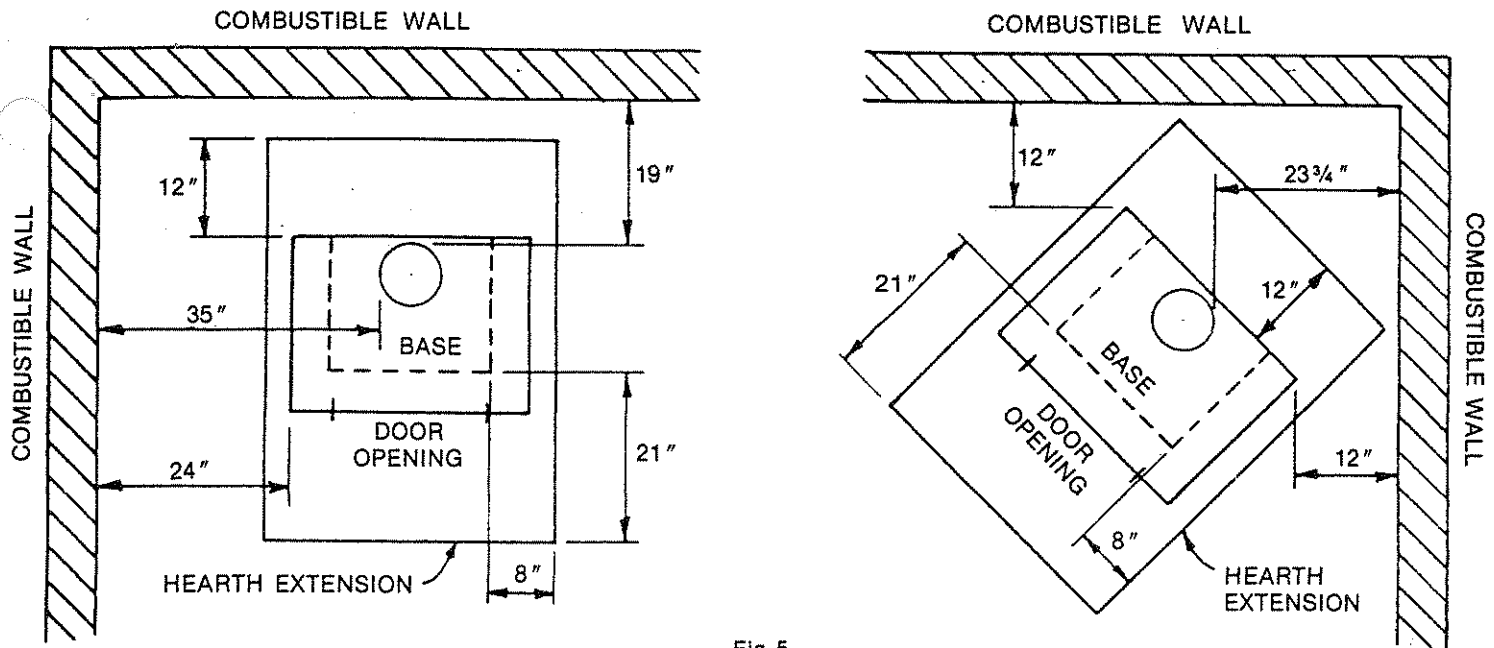

Fig. 5
1. Set hearth and stove in location for marking holes in accordance with the dimensions listed on the label and Figures 5 and 6 of these instructions.